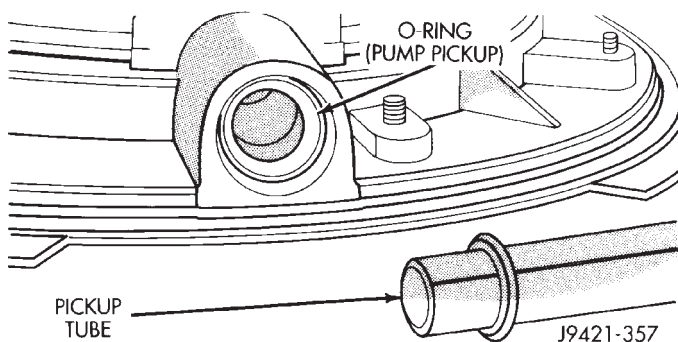

Fig. 94 Pickup Tube O-Ring Installation
- (1) Install new O-ring in pickup tube inlet of oil pump (Fig. 94).
- (2) Position oil pickup tube and filter in rear case. Be sure pickup filter is seated in case pocket and